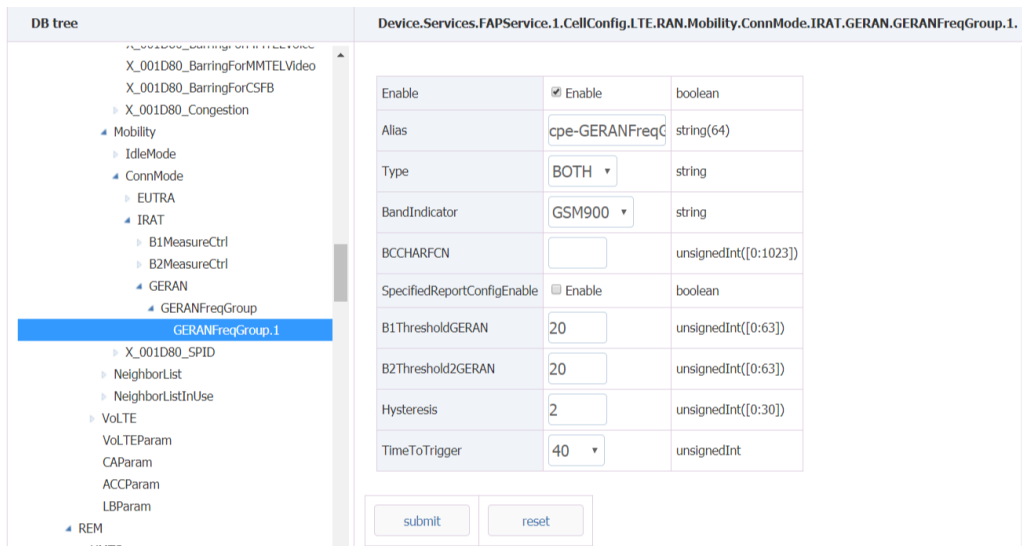

FIG. 324 CSFB frequency points-
1. Device. Services. FAPService. 1. CellConfig. LTE. RAN. Mobility. ConnMode. IRAT. GERAN. GERANFreqGroup., as shown in figure 324. Error: Reference source not found Please refer to the following table for parameter description.